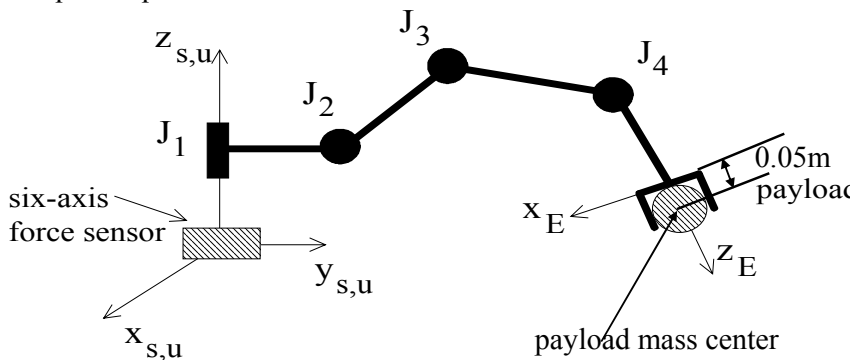

Figure 3
3. Fig.3 shows a 4-axis robot with all rotational joints. The first joint rotates about a vertical axis while the next three joints rotate about a horizontal axis parallel to the xy plane of Frame U. Frame E is attached to the robot end-effector. A six axis force-torque sensor provides 3 force and 3 torque readings along and about the x, y, and z axes of the sensor frame S. Frame S is coincident to the fixed frame of reference U. If the robot end-effector is carrying a payload of 20 kg when it is at a configuration indicated by